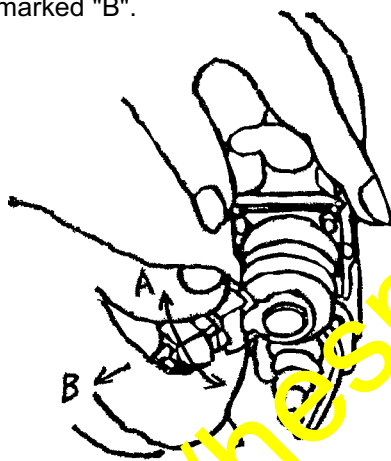

Fig. 3
- (1) Before removing the ECMV, wash the area of the ECMV completely using a spray detergent and, after that, blow off the dirt by use of an air nozzle.
- (2) Disconnect the connectors of the wire harness connecting to the ECMV which is to be replaced. When disconnecting the solenoid side connector, a certain skill is necessary and refer to Fig. 3 indicated below and to the given explanations.